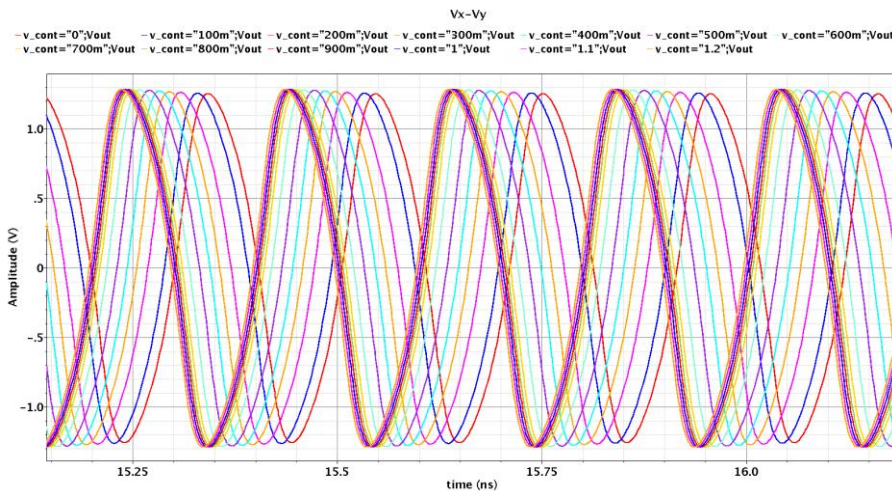

Fig. 16: Zoomed view of the differential output in time domain for vcont of 0-1.2V
- 6) To plot the transient response for differential output waveform for swept control voltage of 0-1.2V, with linear steps of 0.1V, enable the transient analysis and set it up for 20ns. Setup the parametric analysis in ADE→Tools→Parametric Analysis with vcont as the variable and run the simulation. Figure 16 shows the differential output signal in time domain (zoomed view).